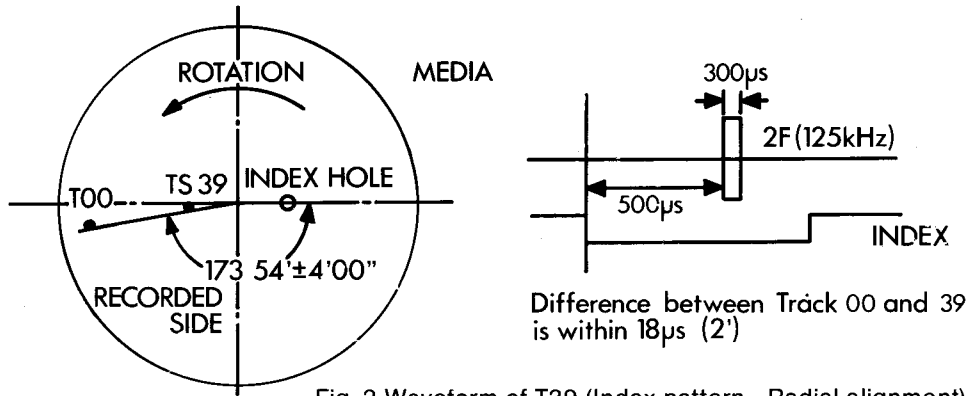

Fig. 2 Waveform of T39 (Index pattern - Radial alignment)
- 4) Adjust OO Sensor (8 on Fig. 6) so that scope shows correct difference as Fig. 2.